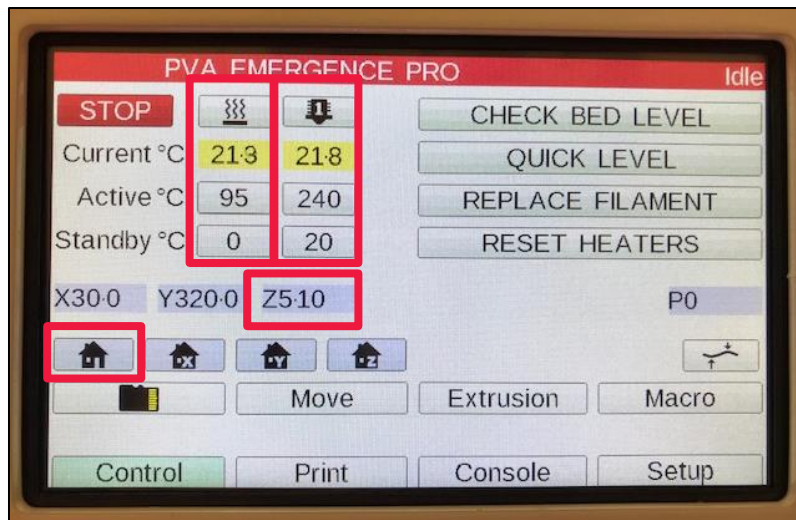

Figure 30: Set Active Temperatures
- Once the hot end and print bed are at temperature, home the printer by pressing **Auto Homing Button**  (Figure 30).